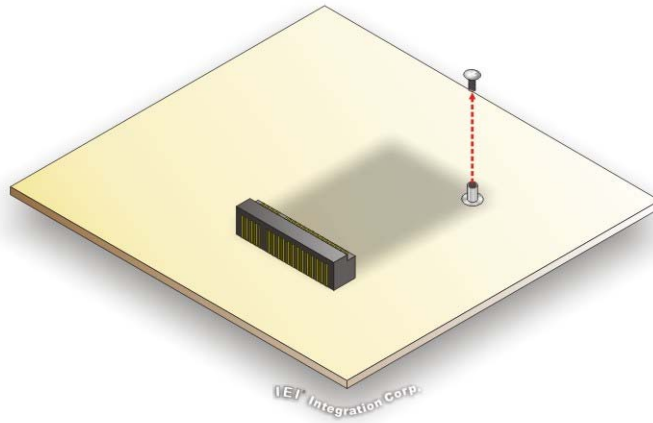

Figure 4-2: PCIe Mini Card Retention Screw Removal
Step 1: Locate the PCIe Mini card slot. Remove the preinstalled retention screw on the screw pillar of the PCIe Mini card slot as shown in **(Figure 4-2)**.